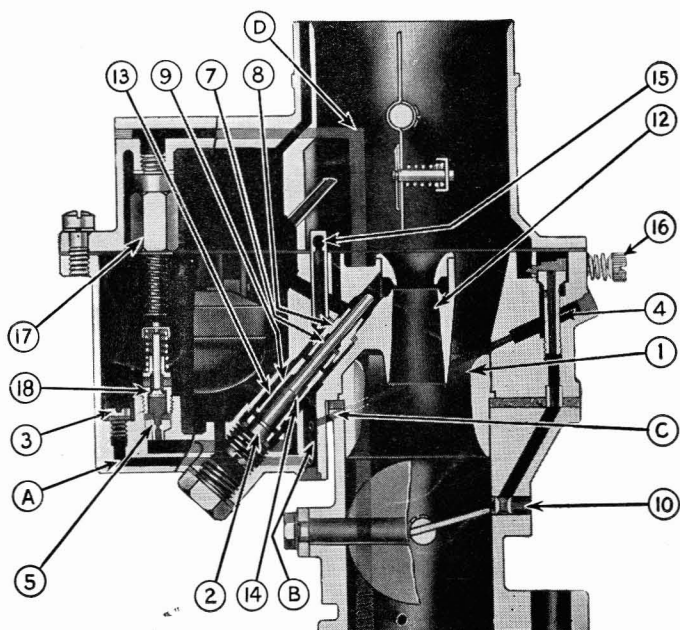

Figure 1
11. Remove main jet, using service tool C161-1. NOTE: The 20 Series main jet (2 in Fig. 1) holds the cap jet base, cap jet calibration and the cap jet tip in place in the carburetor as shown in Fig. 1.
13. Remove compensator jet (3 in Fig. 1) and gasket.
14. Remove power jet valve (18) using service tool C161-25 to remove power jet (5) and copper gasket.
15. Remove idle jet (4) and idle adjusting screw and spring (16).
plate screw (2 required); NOTE: There are four cap jet bases used in the 20 Series, as follows: C50-1 marked #1, C50-2 marked #2, C50-3 marked #3, and C50-6 which is marked #1, as it has the same capacity as C50-1 but has more drilled holes. There are two cap jet bases used in the 23 Series as follows: C50-4 marked #1, and C50-5 marked #4. The number marked on each indicated the well capacity, #1 being the largest capacity and #4 the smallest. As illustrated in Figures 1 and 2, the cap jet base for the 20 Series is longer than the cap jet base for the 23 Series.